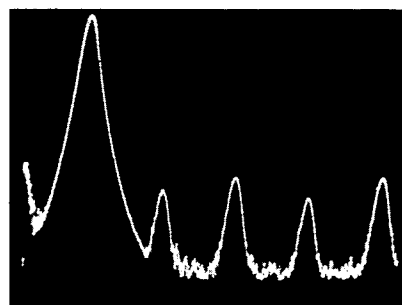

Figure 5-6. Sine Distortion Adjustment: 999 Hz
- 11.6 Adjust 3rd harmonic with A10R227 and 2nd harmonic with A10R206 for minimum (Figure 5-6). Verify that these levels are 42 dB/47 dB below fundamental or lower.